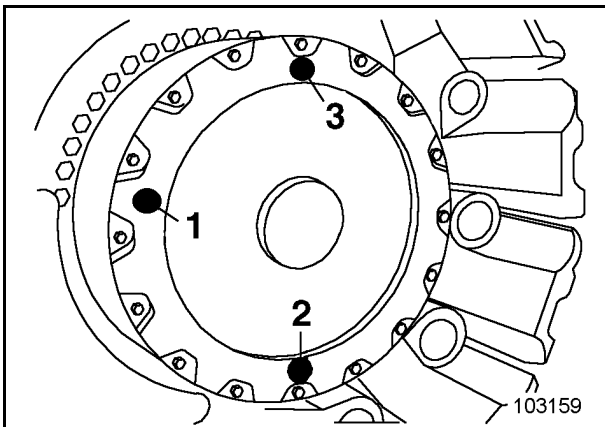

Fig. 3-83:
- Move the excavator into such a position that the screw plugs (1, 2 and 3, Fig. 3-83:) are in the displayed position.
- Unscrew checking screw (1). The oil level should reach up to the lower edge of the opening. Top up with oil, if required.
- Screw checking plug (1) back in place.